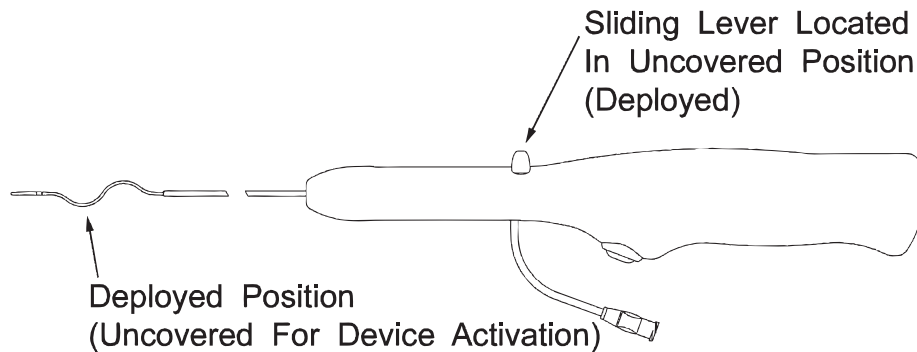

FIGURE 4
11. In a graft, advance flexible tip up to venous anastomosis. **Warning: Do not advance beyond anastomosis.** In a fistula, advance flexible tip up to the central most extent of the clot. Uncover sinuous wire by unlocking, fully retracting sliding lever and rotating sliding lever until an audible "click" is heard (refer to Figure 4). Confirm device positioning within fistula or graft via fluoroscopy. Press ON/OFF switch to activate rotation.